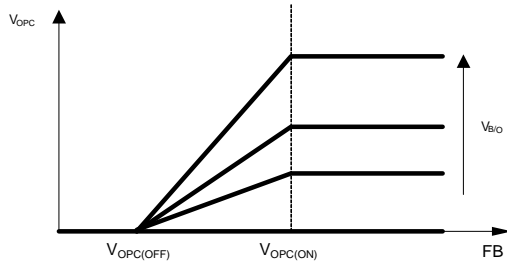

Figure 7: Compensation Current vs. FB and B/O Voltage
An offset voltage proportional to the B/O voltage is added to the sensing voltage. The B/O voltage is proportional to the input voltage. Figure 7 shows the compensation in relation to the voltage on FB and B/O. The over-power compensation (OPC) voltage (VOPC) can be calculated using Equation (4):